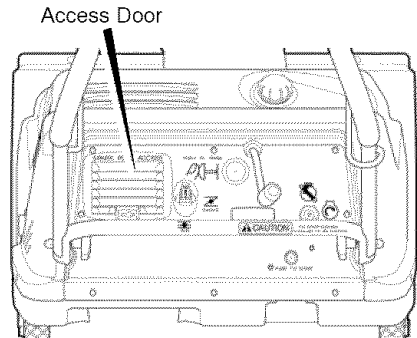

Figure 16
1. Open the spark plug **access door** on the control panel (Figure 16).